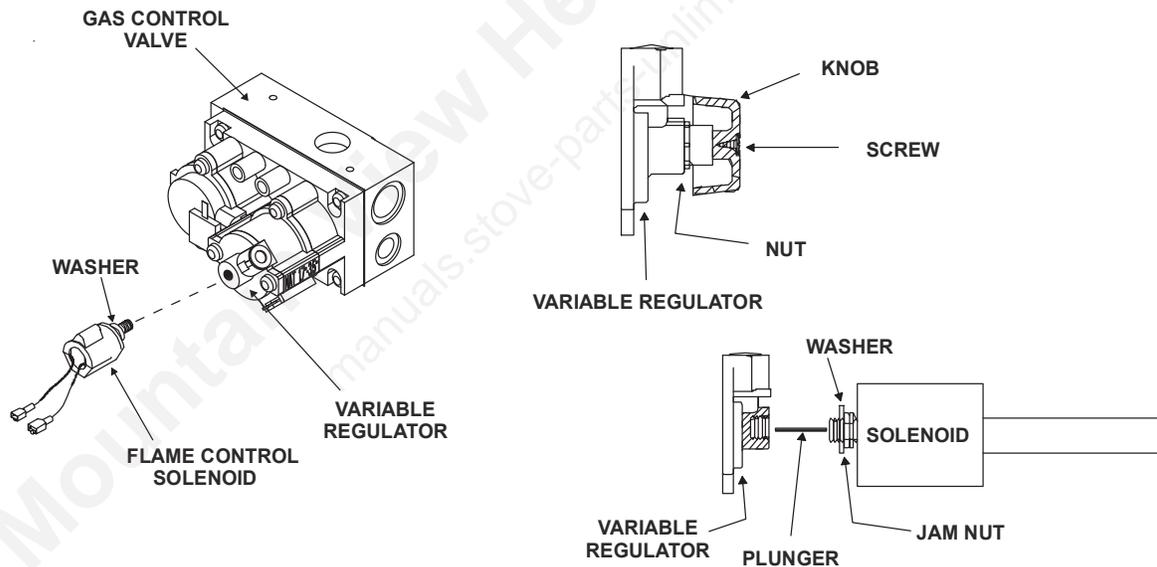

Figure 12.4
4. Place washer on flame control solenoid (see Figure 12.4).
5. Insert the blue (natural gas) plunger into the flame control solenoid (see Figure 12.4).